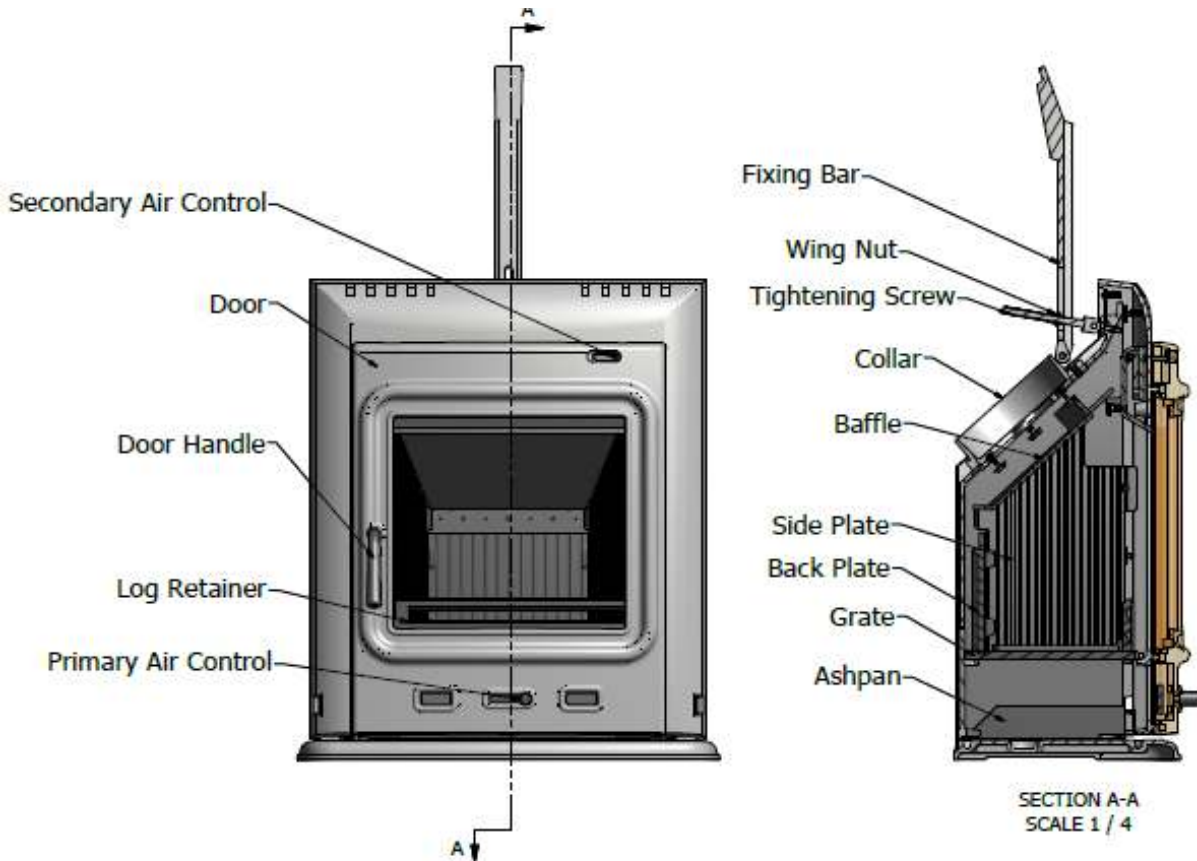

Fig 2 – HD5i Stove Assembly and controls
- Secure the fixing bar and the tightening screw to the stove as shown in fig. 2. Do not put on the wingnut until the stove is in place.